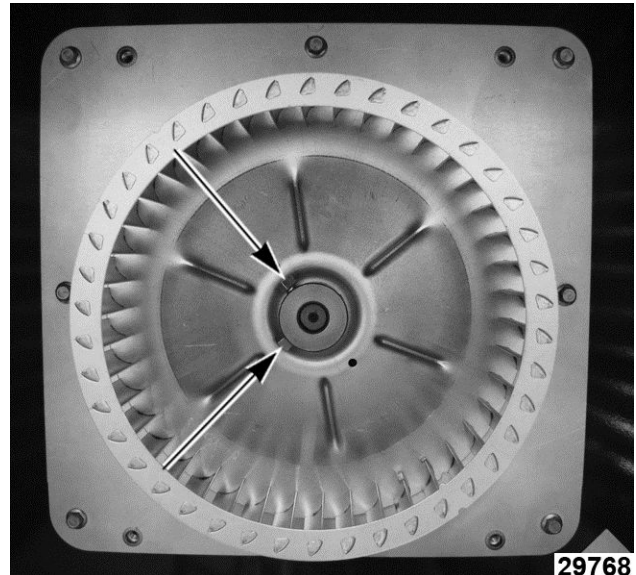

Fig. 22
3. Tighten set screws ( Fig. 22) on blower hub.